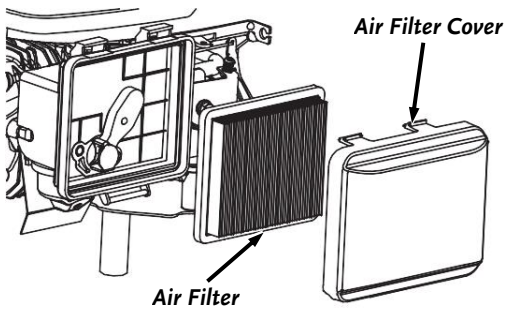

Figure 5
- 1) Remove the Air Cleaner Cover (**Figure 5**).